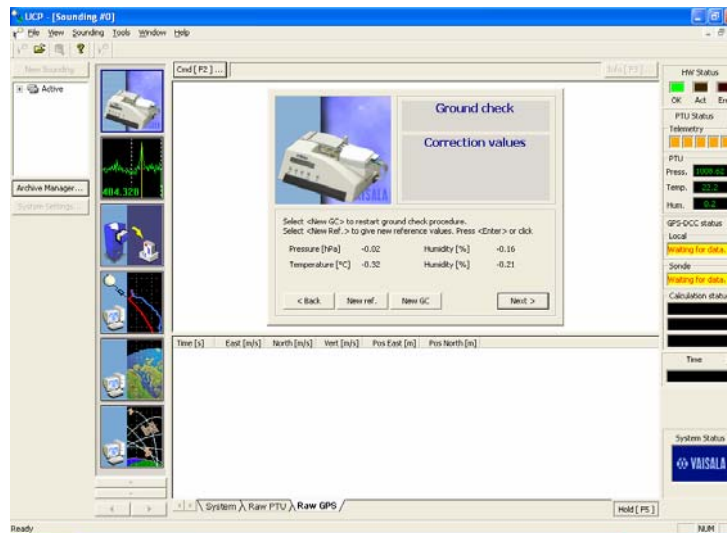

Figure 12
- 12) The next screen (Figure 12) will give you a chance to correct any typing errors you may have made when entering the ground check data.